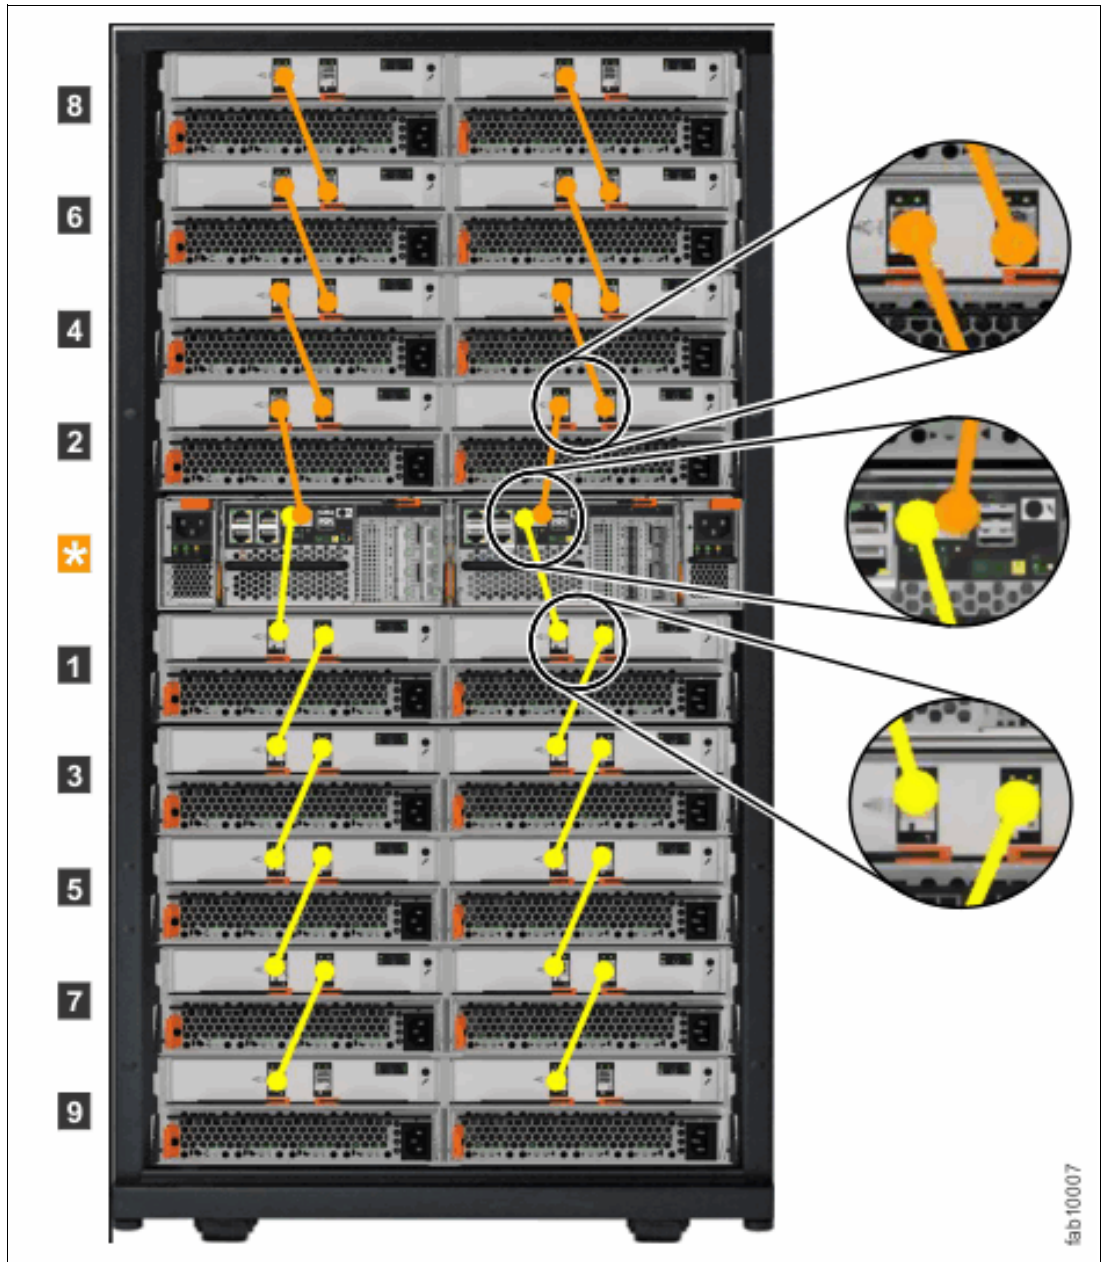

Figure 5-61 Connecting the SAS cables
1. Using the supplied SAS cables, connect the control enclosure to the expansion enclosure at rack position 1, as shown in Figure 5-61 on page 154:
2. To add a second expansion enclosure chain to the control enclosure, use the supplied SAS cables to connect the control enclosure to the expansion enclosure at rack position 2. See Figure 5-61 for an example.
3. If additional expansion enclosures are installed, connect each one to the previous expansion enclosure in a chain; use two Mini SAS HD to Mini SAS HD cables, as shown in Figure 5-61.